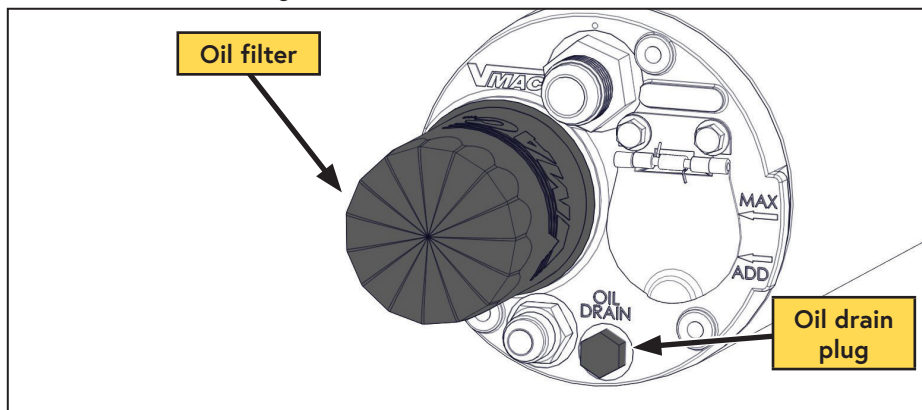

Figure 19 — Compressor oil filter
- ☐ Remove the oil drain plug and drain the oil into a container with a capacity of at least 6 L (1.6 USG) (Figure 19):
- ☐ Remove the oil filter (Figure 19).